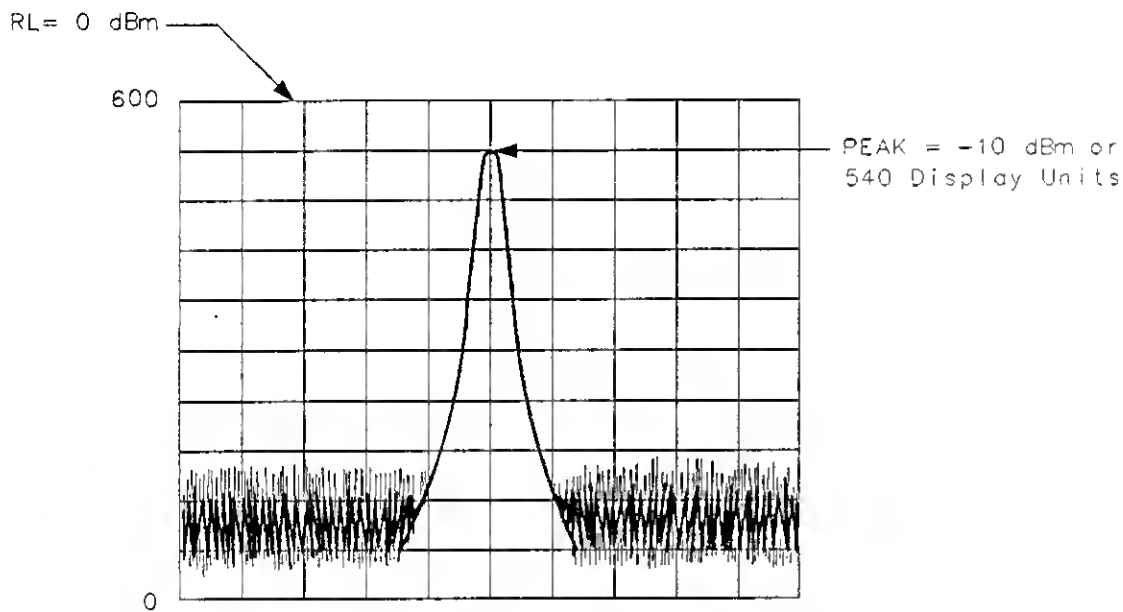

Figure 4-5. Data Transferred in TDF M Format
The measurement units (M) format transfers trace data as ASCII integer values in measurement units, which is the internal format used by the spectrum analyzer (see Figure 4-5). The displayed amplitude of each element falls on one of 601 vertical points (with 601 equal to the reference level). For example, the peak of the signal in Figure 4-5 is equal to -10 dBm, or one division below the reference level. This is equal to 540 measurement units (600 measurement units at the reference level, less 60 measurement units for one division down, equals 540 measurement units). There are also ten additional points of overrange. Measurement units, then, range from 0 to 610.